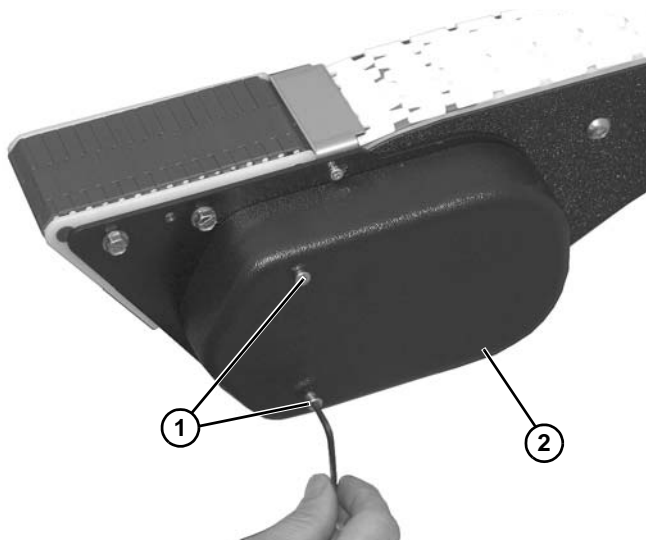

Figure 141
1. Remove two socket head screws (**Figure 141, item 1**) and cover (**Figure 141, item 2**) from power transfer assembly.